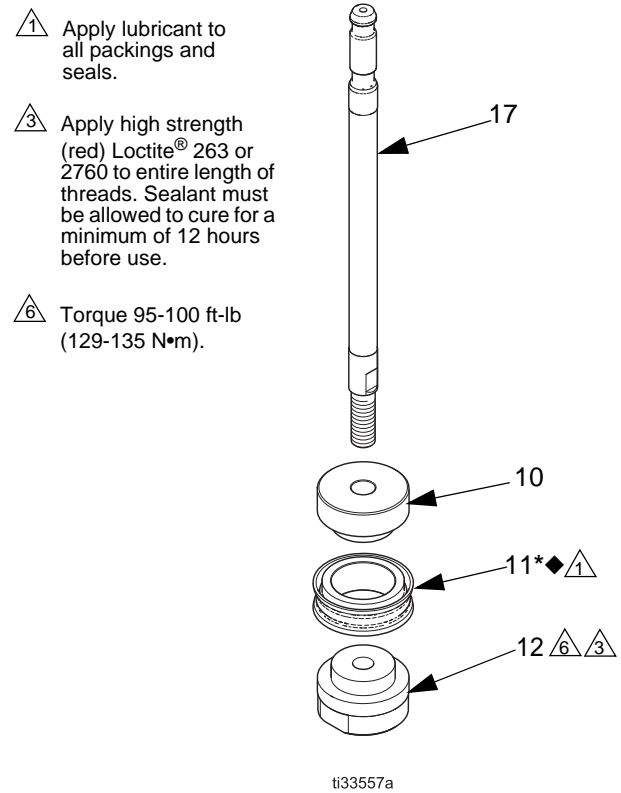

FIG. 3. Disassemble or Assemble the Piston (750cc models only)
750cc models only: Place piston seal (11◆*) onto piston (10). See FIG. 3, page 7.
2. Apply high strength (red) Loctite® 263 or 2760 to the inner diameter threads on the piston nut (12). Screw the rod (17) through the piston (10) and spacer (40; not used on 750cc models) into the piston nut (12).
3. Torque the piston nut (12) to 95-100 ft-lb (129-135 N•m). Sealant must be allowed to cure for a minimum of 12 hours before use.